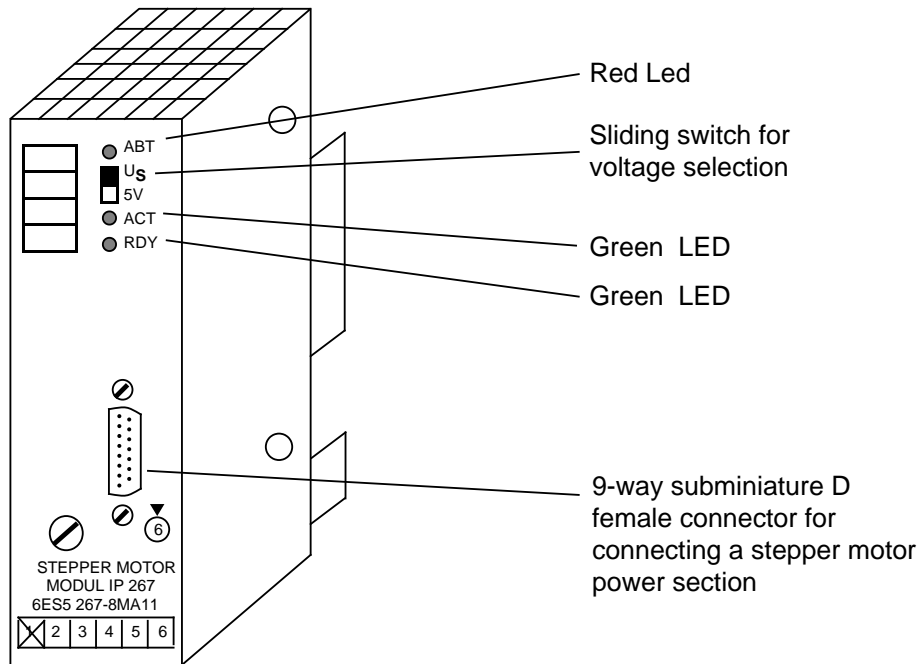

Figure 3-4. Frontplate of the IP 267
After you have switched on the power supply and connected the emergency limit switch (PD), you must transfer the user-specific configuration data (frequency range, start/stop rate, time interval for acceleration and deceleration, operating mode, selector signal for limit switch configuration) to the IP 267. The module can only accept positioning jobs when it has received a valid configuration message frame. This is indicated by the green "RDY" LED on the frontplate (Figure 3-4.) and in the status bit of the feedback message frame. Another green "ACT" LED signals pulse output in the case of a positioning job. The red "ABT" LED lights up when positioning jobs have been interrupted e.g by the emergency limit switch (PD).